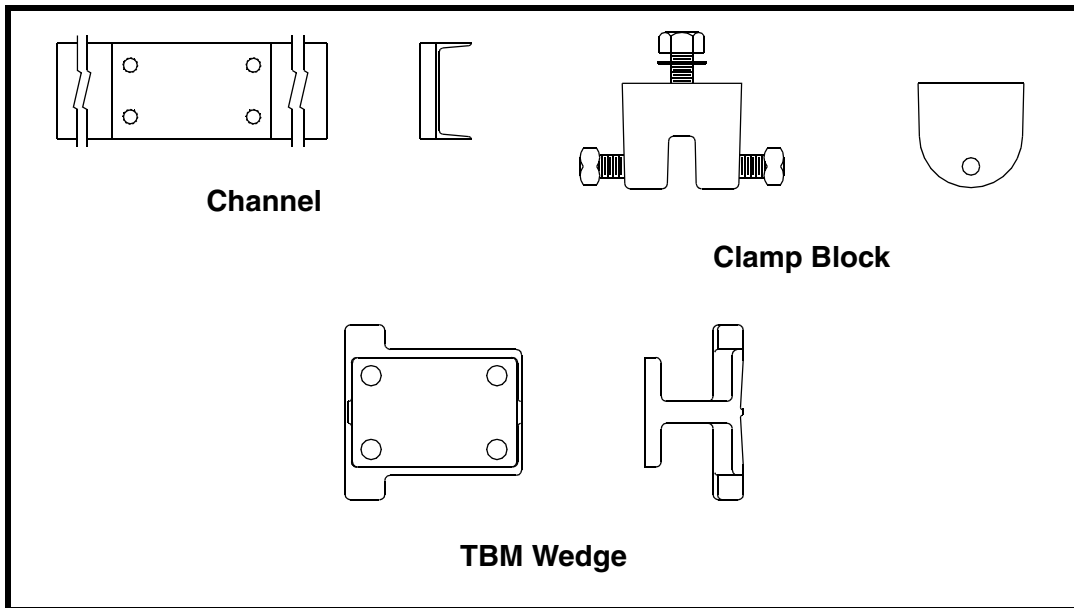

Figure 2. Channel, Clamp Block, and TBM Wedge Mounts (Top and Side Views)
2. See Figure 2. If using Martin® Channel Mount to mount vibrator onto structure, do the following:
- d. If installing vibrator on hopper with wedge mount already in place, use TBM Wedge (see Figure 2) or equivalent to mount vibrator. Mount female half of wedge rigidly to beam extending at least 3/4 the slope length.
2. Install vibrator onto Channel mount, W-beam mount, clamp blocks, or TBM wedge (see Figure 2) as follows: